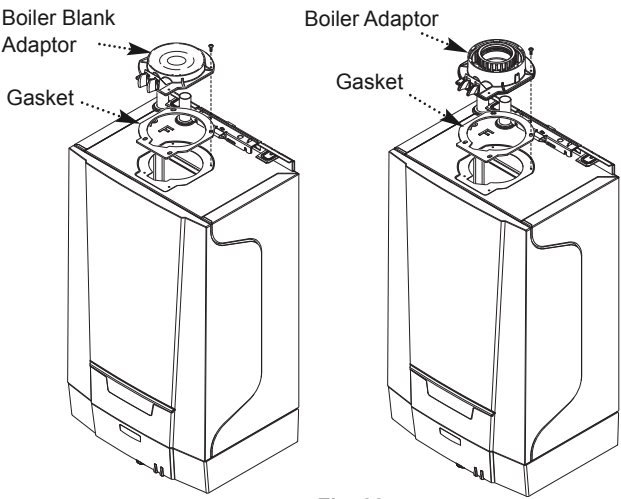

Fig. 28
10. Remove the boiler blank adaptor and replace with the boiler adaptor ensuring that the gasket is in position. Replace the gasket if necessary (Fig. 28).